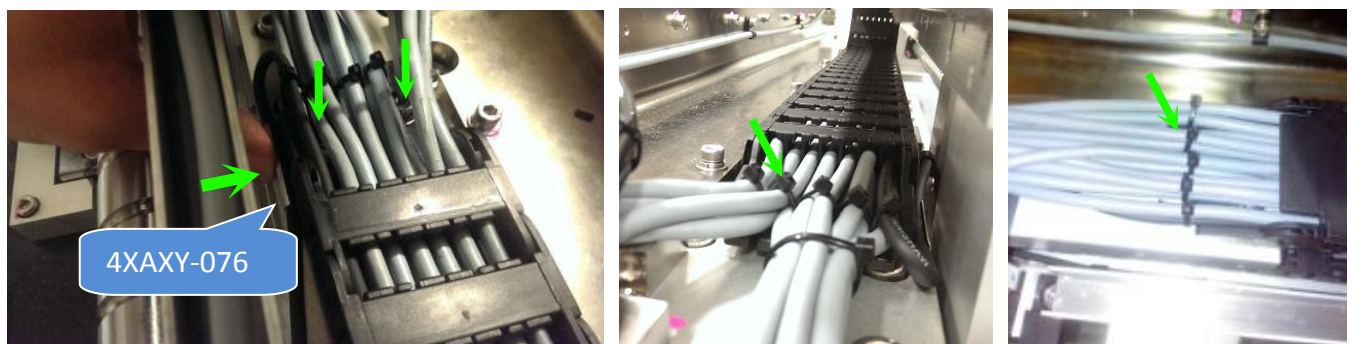

Figure 40 Stepper Motor Cable Routing (X Axis E-Chain)
42. Gently push BRACKET, ENCODER CABLE (P/N, 4XAXY-076) towards rear side .Tighten 2 x screws & reassemble E-Chain cover. Secure Cable with cable tie as below Figure 40